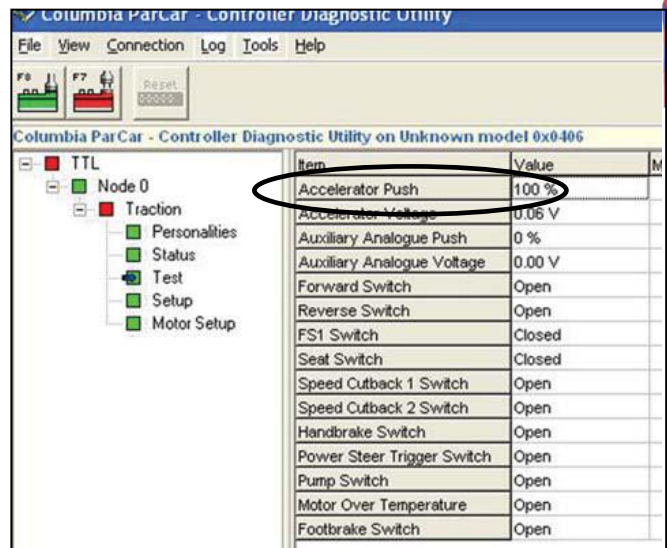

Figure 4.4
2. With the Forward / Reverse knob set to Neutral, slowly press the accelerator pedal. The "Accelerator Push" value should rise in value from 0-100% smoothly as you press the pedal (Figure 4-4). If the value does not change, the controller is not receiving input from the accelerator control device (potentiometer or linear accelerator device). Check all cable and wire connections regarding the accelerator control device. If the value does rise, but not to 100%, adjust the accelerator cable that attaches to the accelerator device.